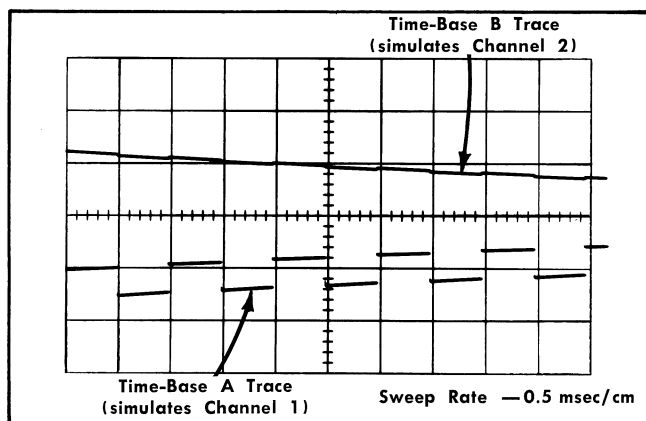

Fig. 2-1. Alternate-sweep slaving check.
- Check that 0.5 cm of the Calibrator waveform is displayed when Time Base A is generating its sweep (lower trace), and that 1 trace width of the Calibrator waveform is displayed when Time Base B generates its sweep (upper trace). Fig. 2-1 shows the oscilloscope display.